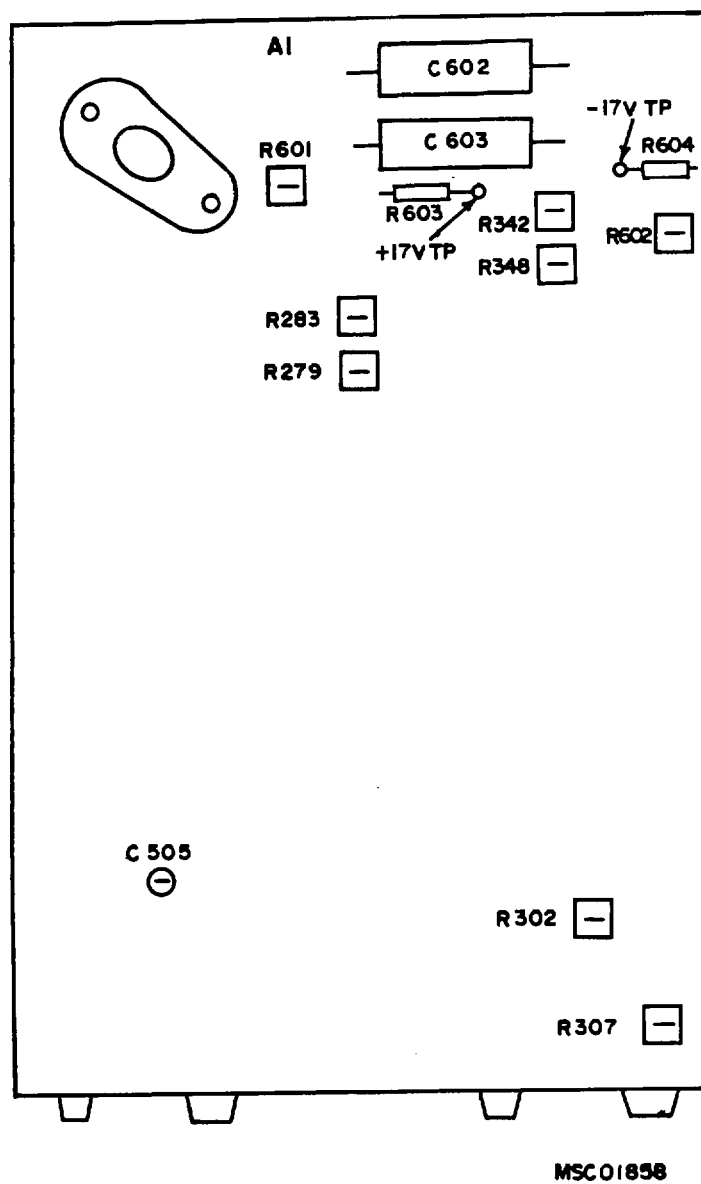

Figure 3. Test equipment - top view.
(1) Adjust A1R283 and A1R279 (fig. 3) for a minimum distortion of <0.5 percent (R).
(2) Perform above adjustment at frequencies of 1, 10, and 50 kHz.
(3) Adjust A1R342 and A1R348 (fig. 3) for minimum distortion <2 percent (R).
(4) Adjust A1R307 (fig. 3) for a distortion of <2 percent (R).
(5) Set MODULATION RANGE Hz switch to 10K and VERNIER fully ccw. Adjust A1R302 (fig. 3) for a minimum distortion of <2 percent (R).
(4) Measure rise and fall times. If displayed pulse is not less than 18 ns, perform b below:
(5) Adjust oscilloscope for 2 cycles display and measure pulse aberrations. Pulse aberrations will not exceed 10 percent of pulse amplitude.
**b. Adjustments.** Adjust AIC505 (fig. 3) for best overall rise and faltime and pulse aberration (R).
(1) Adjust A1R307 (fig. 3) for an indication of less than 10  $\mu$ s (R).
(2) Adjust A1R302 (fig. 3) for an indication of less than 10  $\mu$ s (R).
(3) If above adjustments are performed, repeat paragraph 9a(5) through (8) above. The adjustments affect both checks.
(1) Connect digital voltmeter (A3) to TI +17 V TP (fig. 3) and ground, using two test leads (BS).
(2) If digital voltmeter does not indicate between 16.758 and 17.442 V de, perform b(l) below.
(3) Move test lead from +17 V TP to -17 V TP (fig. 3).
(1) Adjust AIR601 (fig. 3) for a digital voltmeter indication of 17.10 V (R).
(2) Adjust A1R602 (fig. 3) for a digital voltmeter indication of -17.10 V (R).